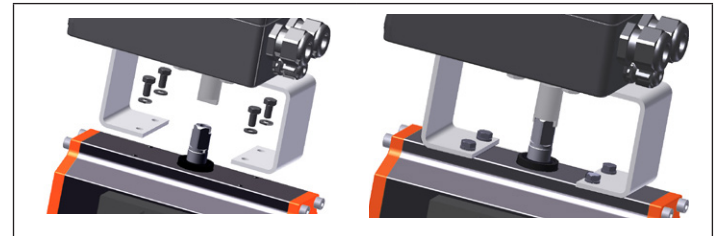

Fig. 8: Swivel actuator attachment
- Place positioner with assembly bridge on the swivel actuator and attach (see "Fig. 8")